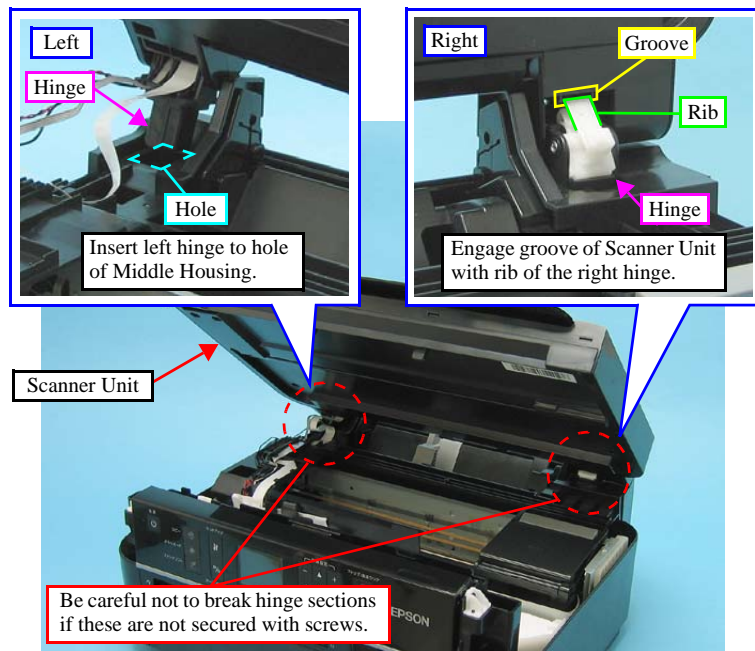

Figure 4-17. Scanner Unit
1. Install the Scanner Unit to the printer as instructed in Fig. 4-17.